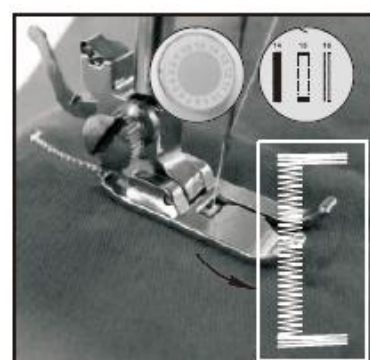

Fig.17
- 4) Choose the 8th stitch, then turn on switch and sew 5-6 stitches in low speed, then turn off switch (Fig.17).